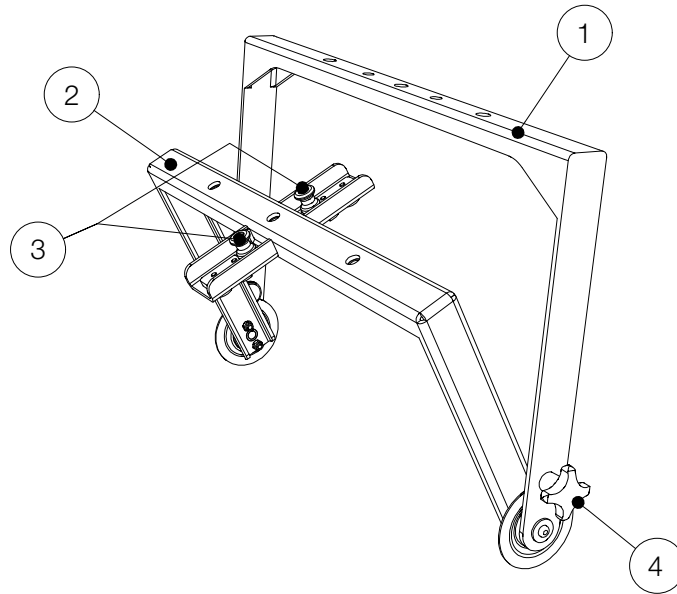

Figure 2.1 - Overview
3. Then pull the two retainers (see figure 2.1 - pos.3) up.